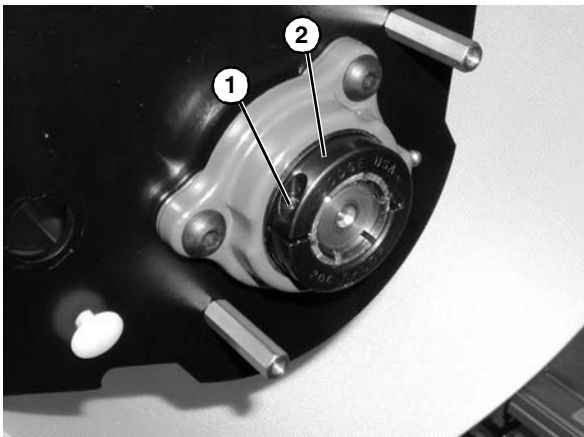

Figure 82
9. Loosen clamp screw (**Figure 82, item 1**) and remove bearing collar (**Figure 82, item 2**).